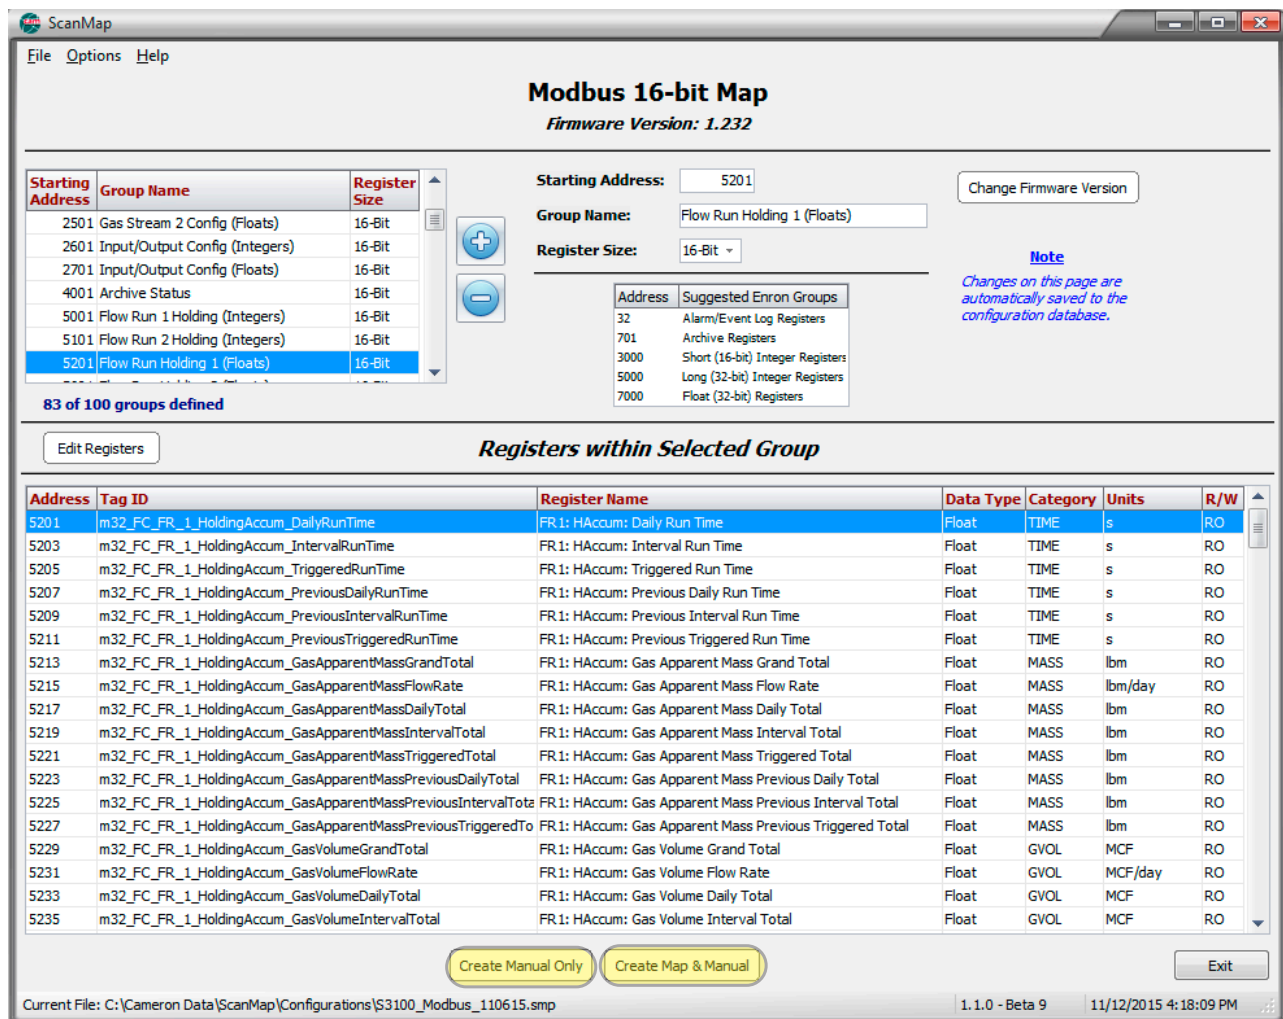

Figure 5.1—Create Manual Only and Create Map and Manual buttons
Buttons at the bottom of the main screen (Figure 5.1) give the user the option of creating a map and a manual, or creating only a manual.
1. At the bottom of the main screen (Figure 5.1, page 23), click **Create Map and Manual**.